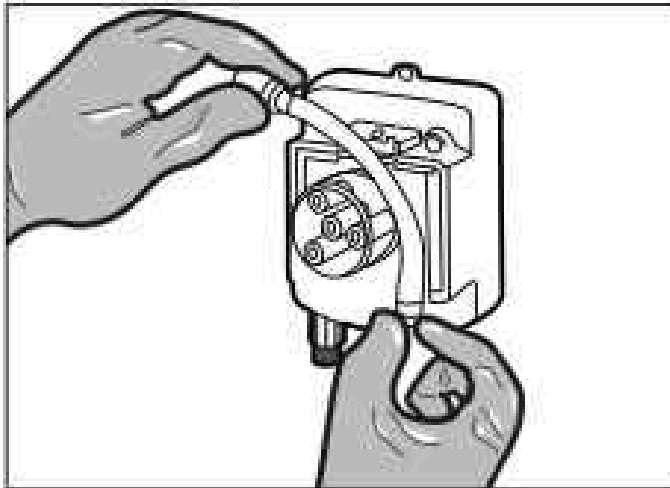

Figure 19. Remove Roller Assembly
4. Release the fittings from the slots to remove the tube. See Figure 19.